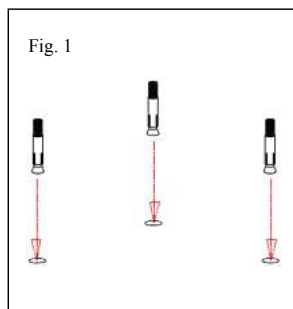

Fig. 3
4. Make sure the lamp base (F) is stable before installing Part (D) to the lamp base by using 3 supplied screws.
5. Then screw part (A) into part (B) and part (B) to Part (D). (Fig 3).